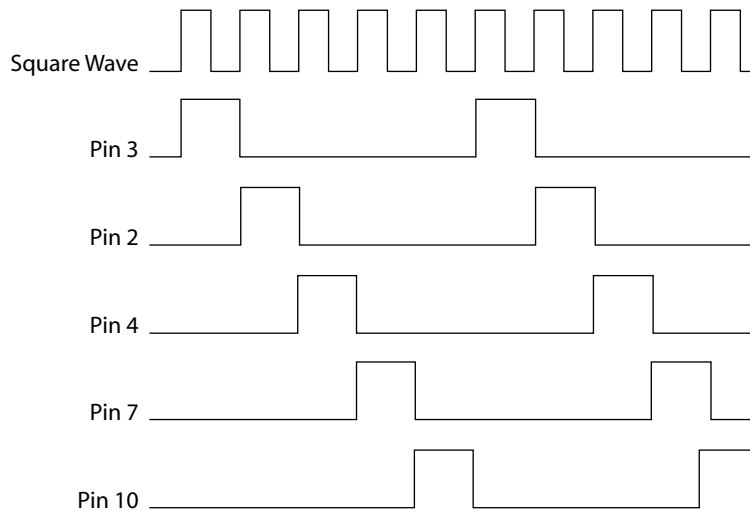

Figure 10-3:
- ✓ **IC2** is the other key component of this circuit. This is a 4017 decade counter that takes a square wave and generates ten sequential pulse outputs. A 4017 decade counter does this by placing +V on one of its output pins at a time, one after the other. The 4017 decade counter switches to the next output pin at the start of each cycle of the square wave generated by the timer, as shown in Figure 10-3. This allows you to control the rate at which the 4017 decade counter switches +V to each output pin; this is done by controlling the frequency of the square wave generated by the LM555 timer chip. Because we didn't want ten dolphins, we connected the sixth output pin (Pin 1) to the reset pin (Pin 15). This applies +V to the reset pin after five dolphins dance across the wall and also resets the counter to the first output pin, skipping the last four output pins altogether.